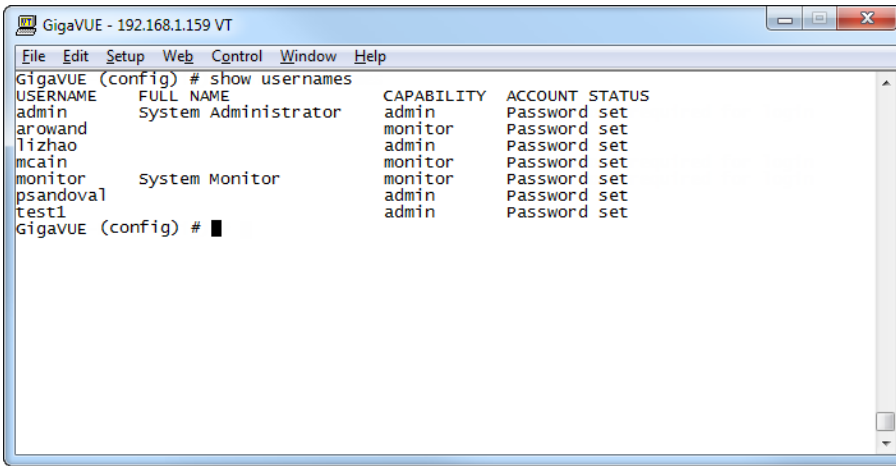

Figure 6 Reviewing the User List
2. Once you have configured these basic user accounts, use the **show usernames** command to review your settings. Figure 6 *Reviewing the User List* shows some sample **show usernames** output after several users have been added.